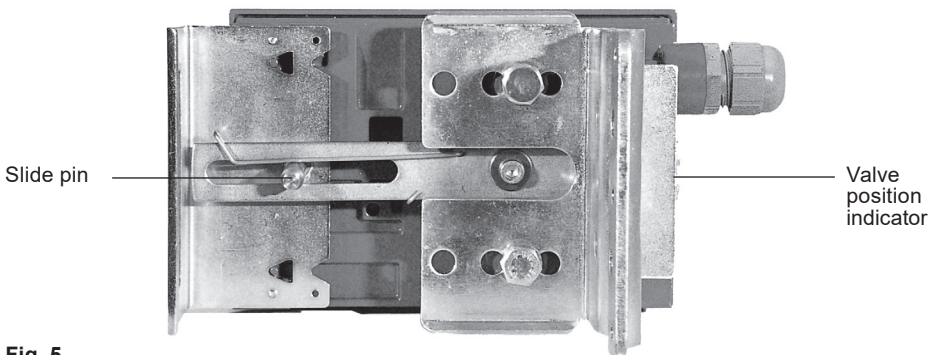

Fig. 5
Step 4 Temporarily apply adequate air pressure directly into the actuator so that the valve is at 50% of travel (Figure 5).
Step 5 Engage the slide pin into the positioner lever (see Figure 5, noting the position of the spring, above the pin) and loosely fix the positioner to the actuator. For yoke actuators use the single elongated screw hole with the M8 x 20 screw and spring washer, for pillars use the U-clamps.
Important: Slide positioner vertically up or down the yoke/pillars so the positioner lever is horizontal at 50% travel, and the indicator at LHS is aligned (Figure 5). Secure the tightening screws/nuts.